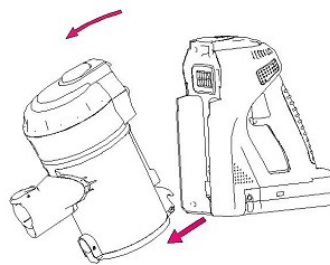

Figure 10
- 2> Press the button of the dust cup and press the arrow to rotate the dust cup to remove the dust cup; Fig. 10